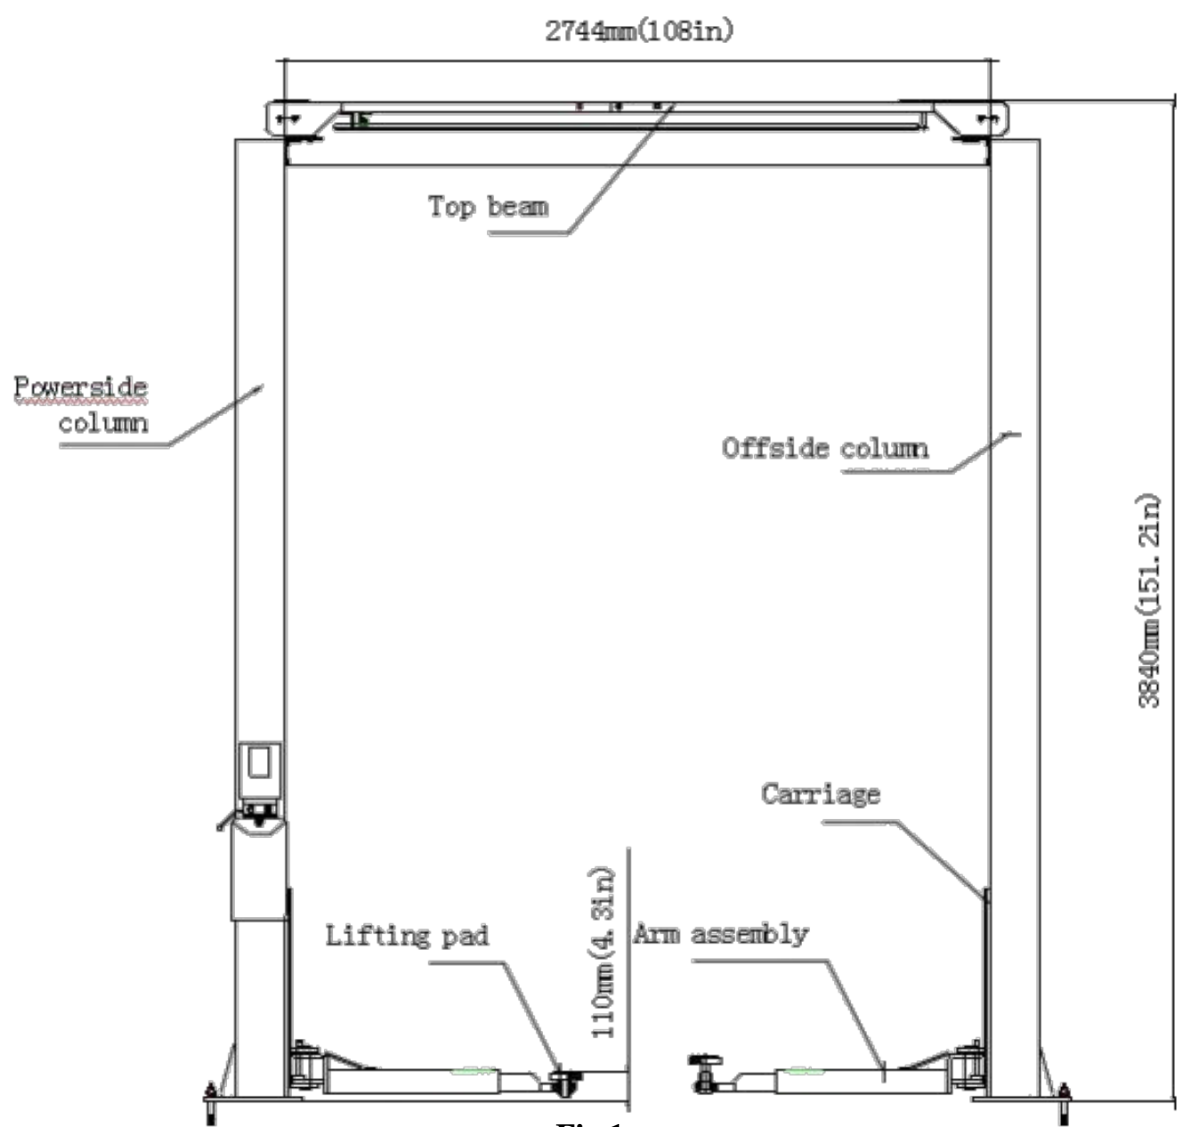
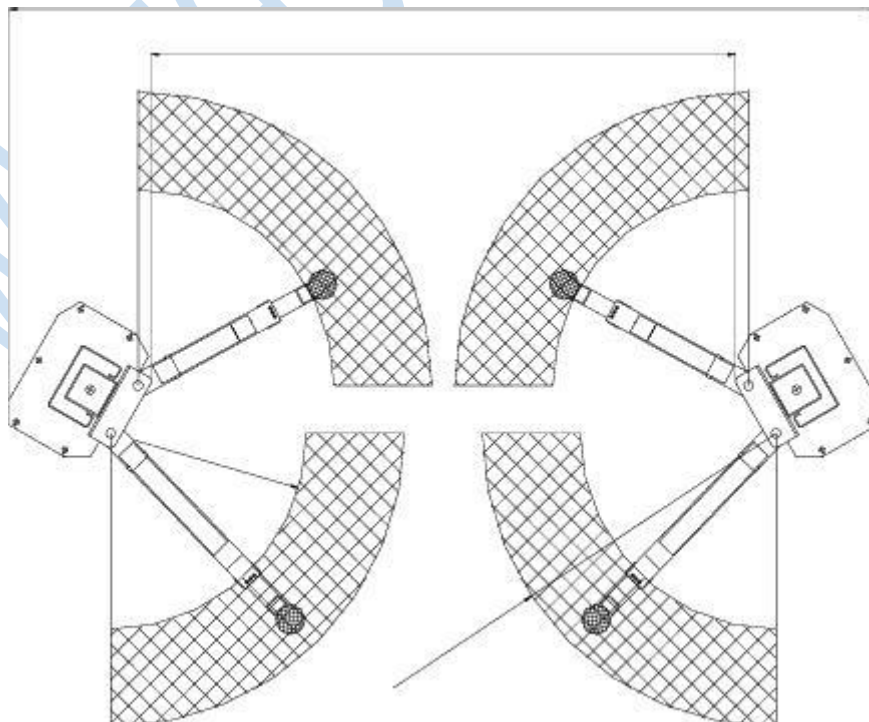

Fig.1a
Fig.3a
LM670 (U) Clear-floor 2-post lift	4.5T Economical clear-floor 2-post lift (fig. 1a、fig.2a、fig.3a)
LM670 (U) clear-floor 2-post lift	4.5T Economical clear-floor 2-post lift (fig.1a、fig.2a、fig.3a)